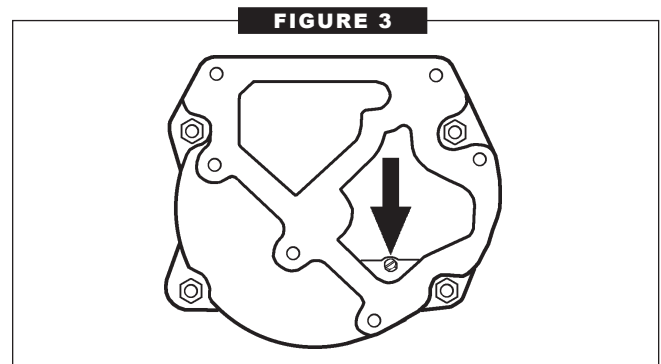

FIGURE 3
2. Attach ground wire using the green ground screw located inside the electrical box (Figure 3). Connect the power cable to the pump wiring per the wiring diagram located inside the electrical coverplate. Secure with wire nuts.